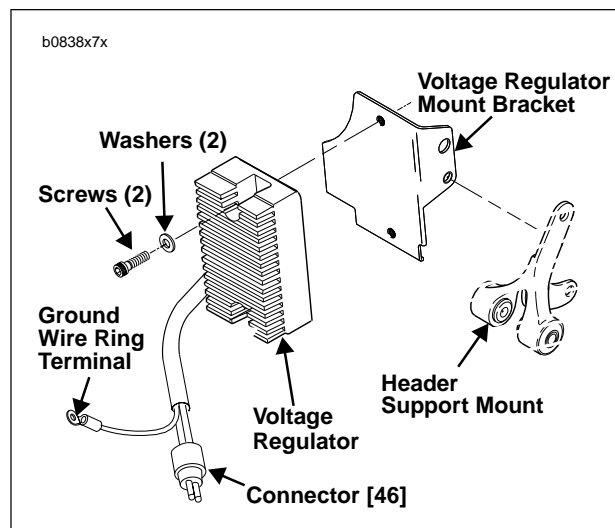

Figure 7-31. Voltage Regulator
1. See Figure 7-31. Attach **new** voltage regulator to bracket using screws and washers.